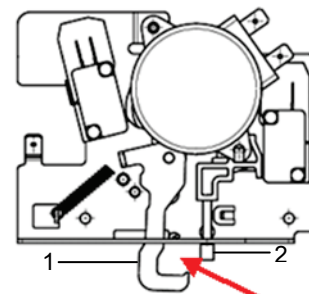

Figure 17 Latch in locked position
If these measures fail, run a thin wire or wire coat hanger in between the door and the front face of the range. Figure 17 shows where to position the wire between the latch hook (1) and the plunger (2). Slide the wire to the left, pushing the latch hook left and releasing the latch.